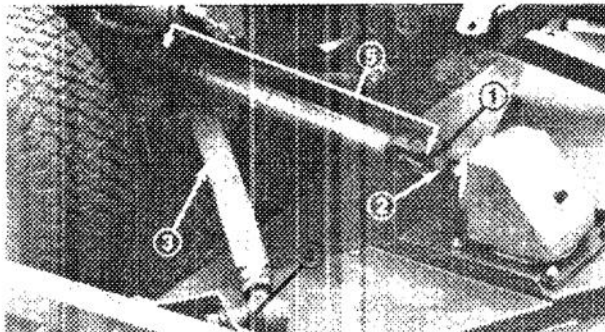

Figure 23
3. Drive roll pin out of yoke and input shaft of gear box (Fig. 23). Slide yoke off the input shaft. If traction unit will be used without the cutting unit, drive roll pin out of yoke at PTO pivot shaft and remove entire universal shaft from traction unit.
5. Have a helper push down on the right push arm while you remove the capscrews, flatwashers, lockwashers and nuts securing ball joint mount to caster arm on cutting unit (Fig. 23). Now the helper can carefully allow push arm to move upward, which will gradually release the 100 pounds (445 N) of spring load.